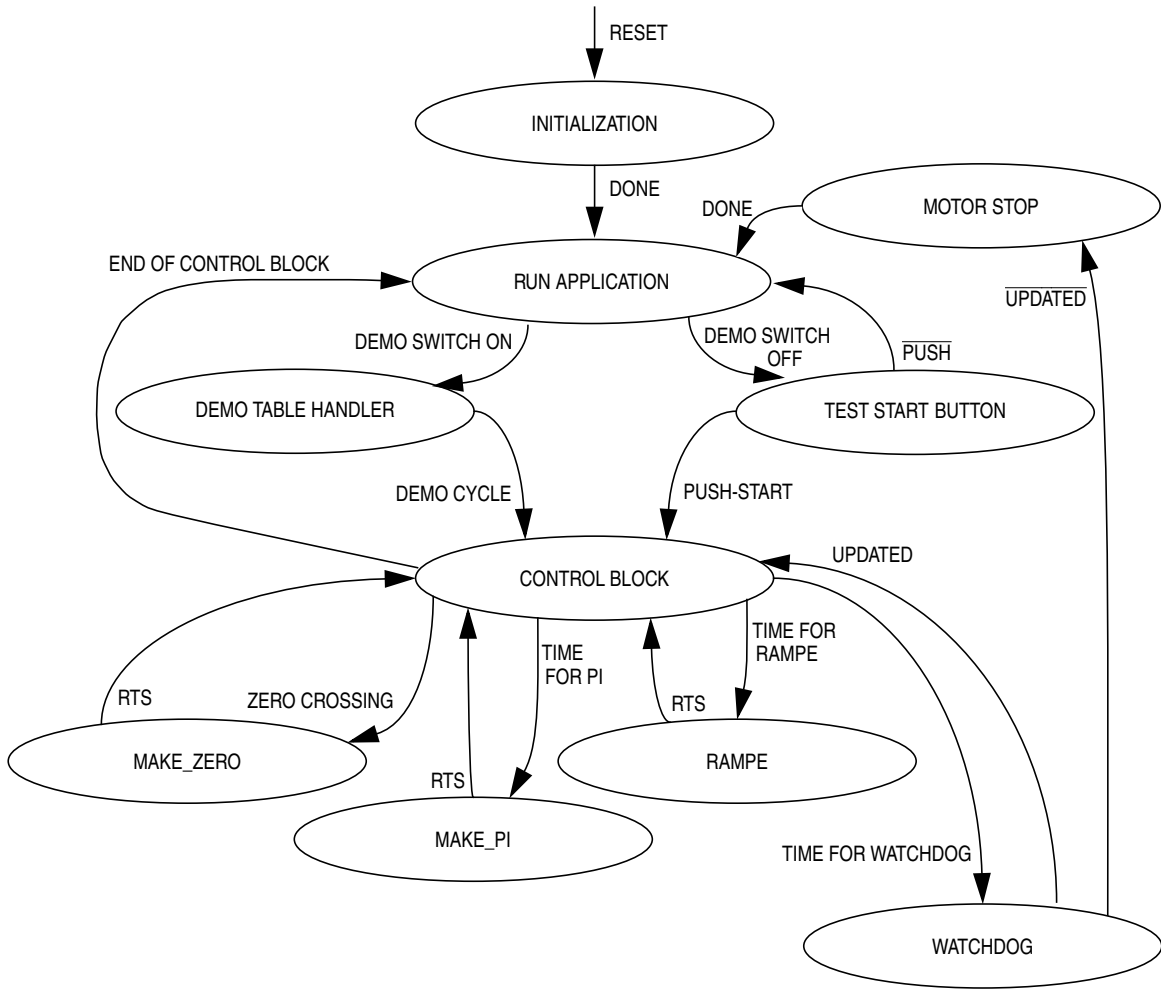

Figure 6. Program State Diagram
Figure 6 shows a state diagram. The software consists of a control block and some subroutines like MAKE_ZERO, MAKE_PI, RAMPE, watchdog, and interrupt services routines. The control block is, in fact, a relatively short loop which makes a decision on which subroutines will be called. There is also a universal timing routine which works with the hardware (HW) timer and a unique register for every timed subroutine. The timing routine calculates the difference between the HW timer and a particular register and, in case of coincidence with the given number (time interval), it calls the appropriate subroutines. The same principle is used for all time conditions.